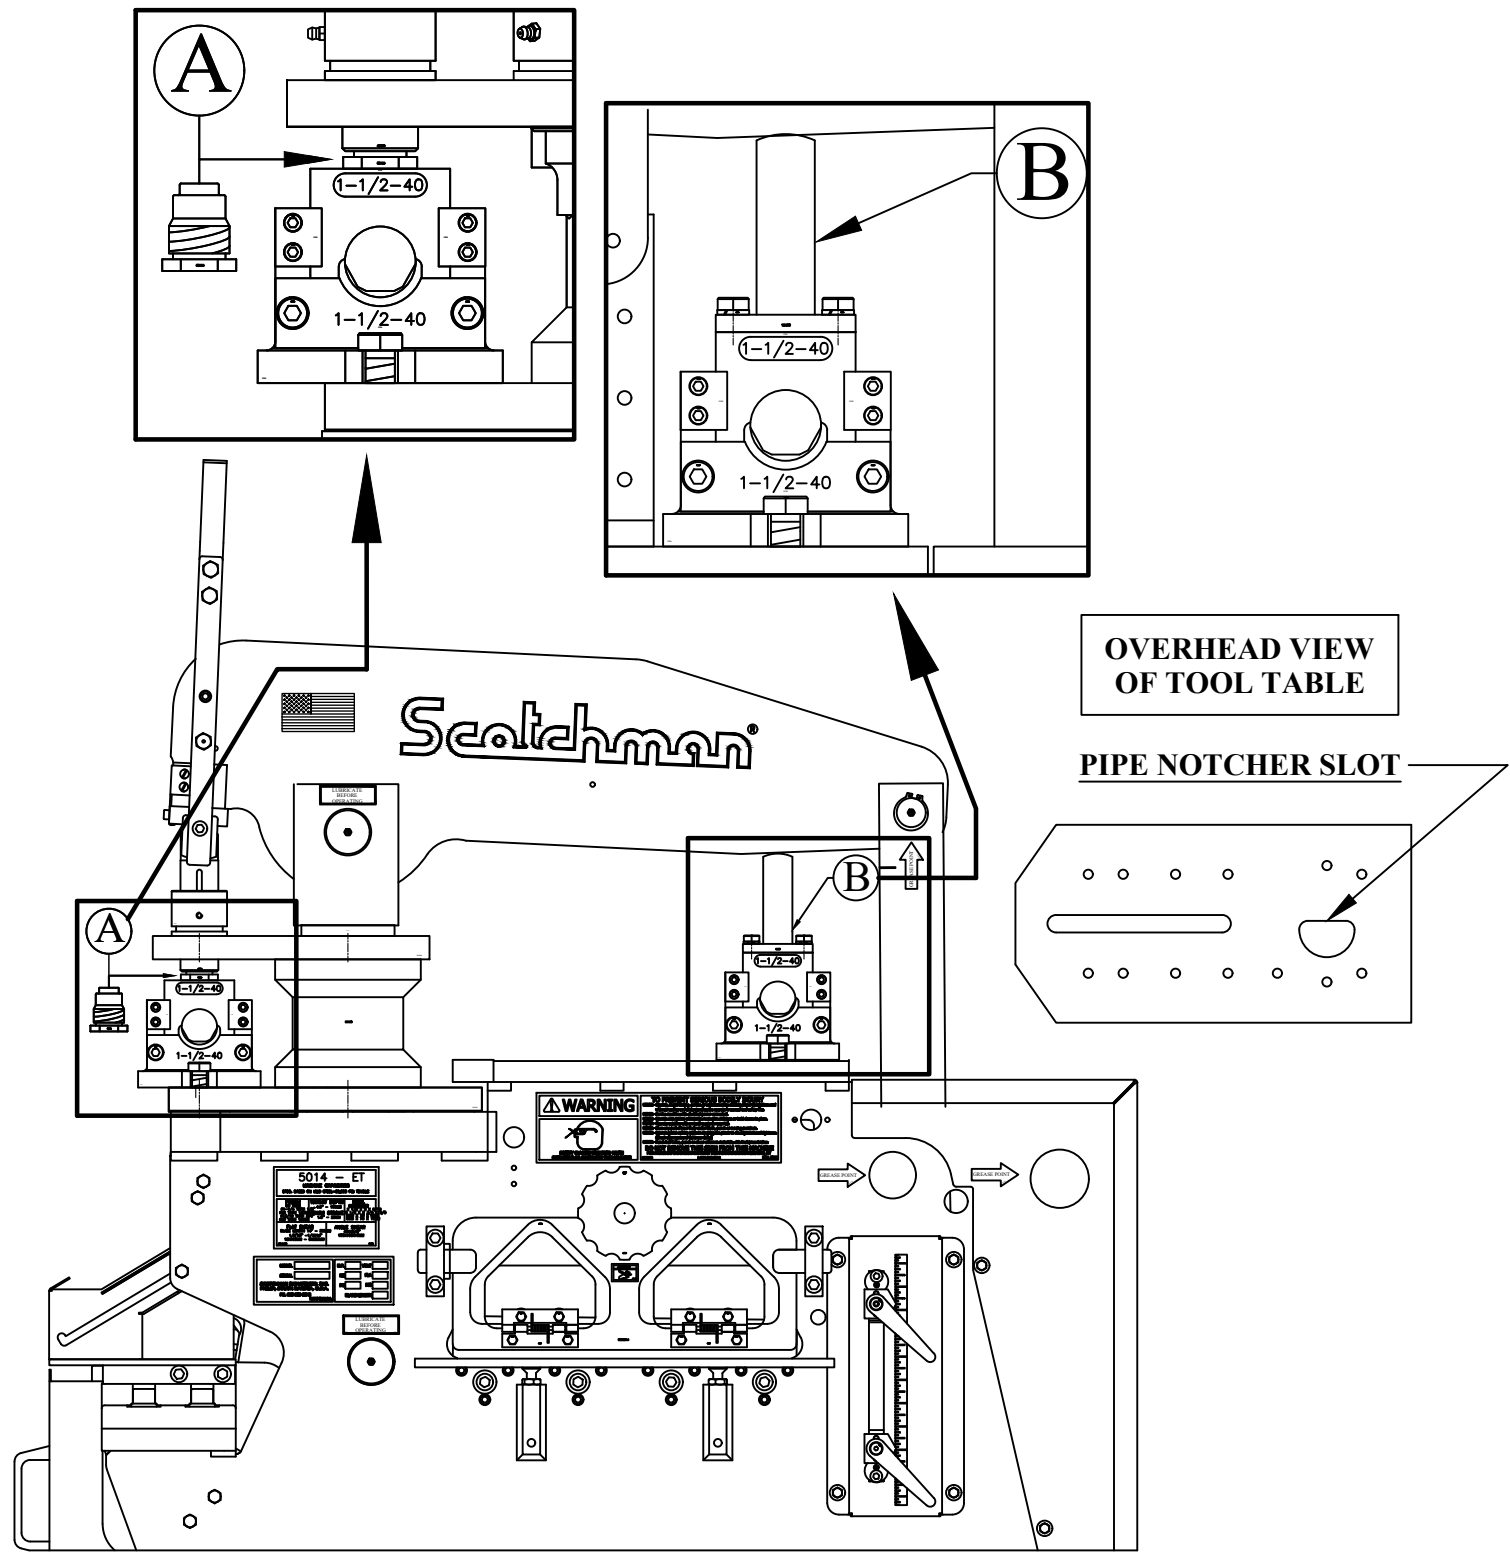

FIGURE 22
SEE FIGURE 22 BELOW.
- 2. Install the Punch Pusher (A) in the punch barrel.**
- 5. Mount the pipe notcher so that it faces the operator's side of the machine, as shown in Figure 22.**